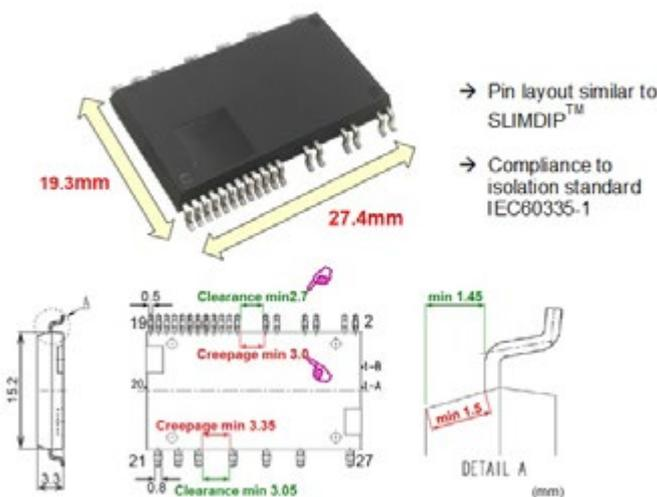
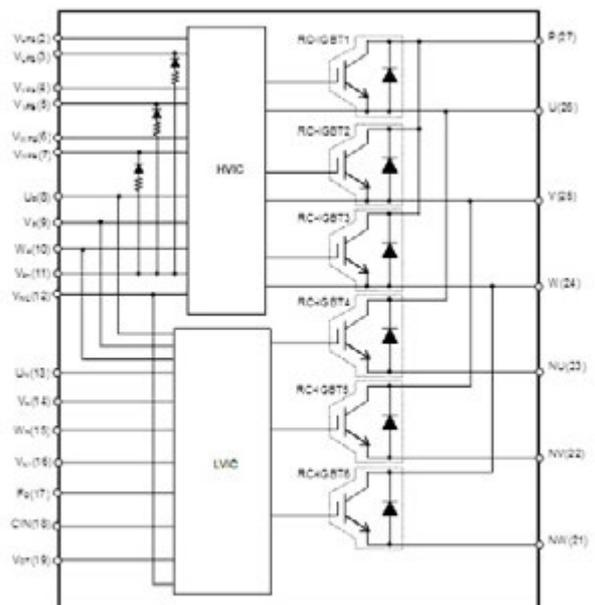

Figure 1 : Package dimensions of the MISOP™ and the pin layout indicating the compliance to the IEC60335-1
Figure 2 : The internal topology of the MISOP™
The MISOP™ is based on the Mitsubishi 7th generation Reverse Conduction (RC) IGBT chip technology. The 7th generation chip technology is a low loss thin wafer IGBT technology which allows an optimization of the balance between performance and IGBT chip size. In addition to the inherent benefits of the 7th generation chip technology, the RC technology enables a significant level of optimization of the power module's surface area requirement since the IGBT and the diode are effectively integrated into a single die. As a result, the chip surface which is normally used for the placement of diode dies are not required in this approach and therefore the IGBTs and the diodes necessary for a 3 phase inverter are effectively packed into a single package corresponding to the SOP footprint. Figure 1 indicates the size of the package and Figure 2 indicates the internal circuit topology of the power module. The pin assignment is similar to that of Mitsubishi's SLIMDIP™ module from the DIPIPM™ series